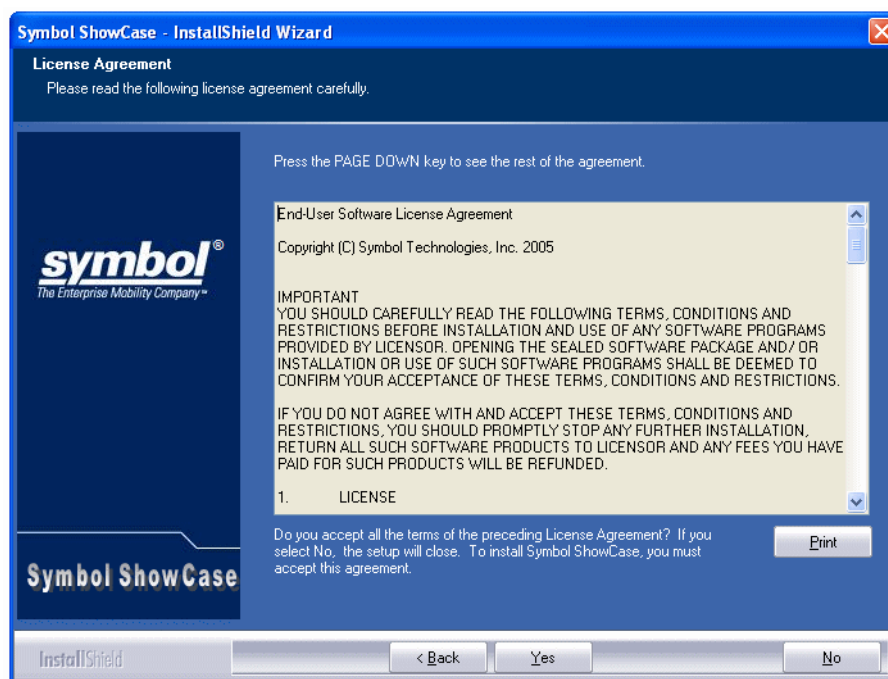

Figure 2-4. Software License Agreement Window
3. Click **Next** on the *ShowCase Welcome* window and the *Licence Agreement* window appears (see Figure 2-4).